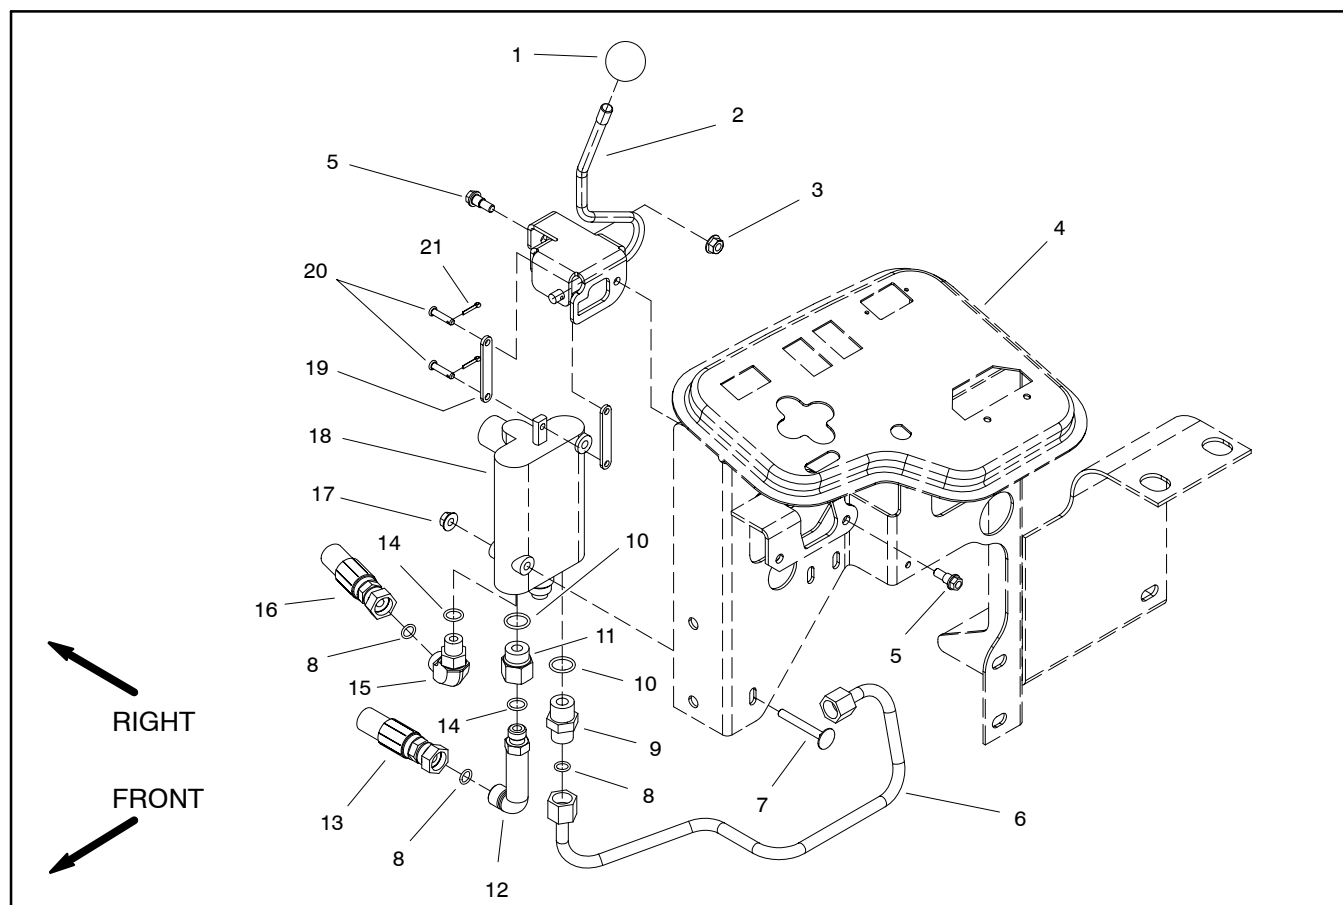

Figure 46
Removal (Fig. 46)
2. Remove control valve from the frame using Figures 46 and 47 as guides.
Installation (Fig. 46)
2. Install control valve to the frame using Figures 46 and 47 as guides.